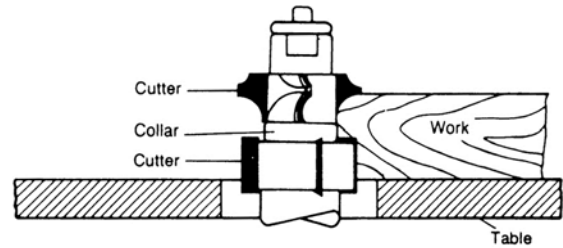

Figure 16
3. The collar between cutters method, shown in Figure 16, has both the advantages and disadvantages of the first two methods. This method is used primarily where both edges of the work are to be shaped.